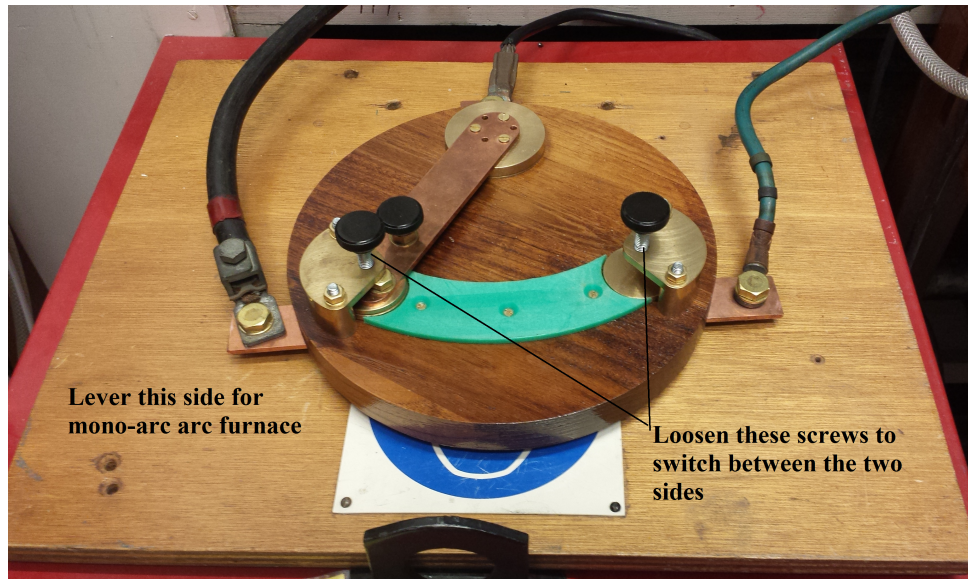

Figure 12: Position of the lever when the mono-arc argon arc furnace needs to be used.
**Step 2:** The welding power supply is connected to both arc furnaces, so a lever is used to choose which arc furnace is supplied with power (Fig. 12). To power the mono-arc arc furnace the lever has to be on the left (as indicated in the figure).